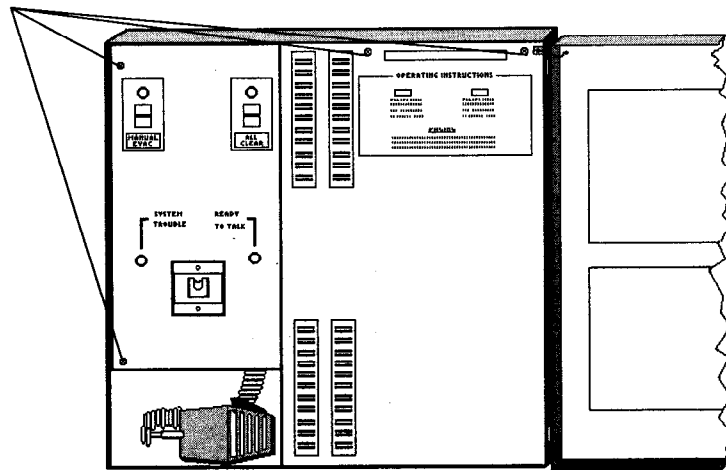

Figure 11. Location of the Retainer Holding Screws
5. Remove the four screws holding the retainer (internal door) to the back box, as shown in Figure 11.